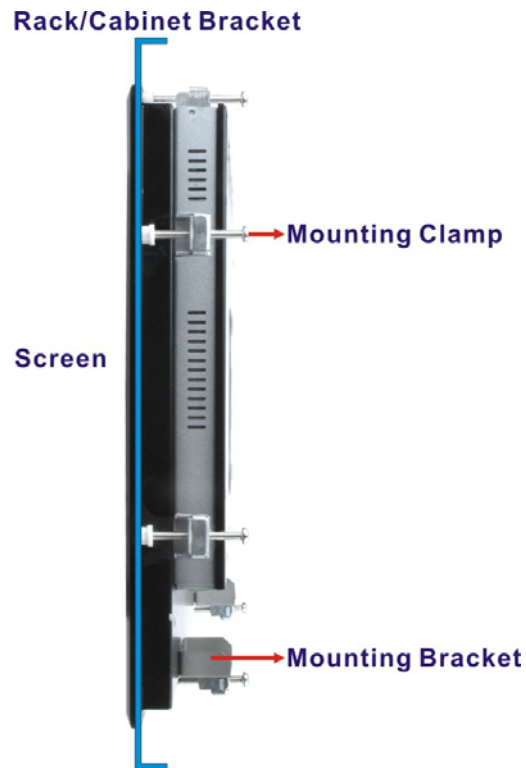

Figure 3-34: Secure the Rack/Cabinet Bracket
Step 3: Insert the mounting clamps into the mounting brackets and pre-formed holes along the edges of the PPC-F12B/15B/17B-BTi, behind the aluminum frame (**Figure 3-34**). The required number of mounting clamps may vary by models.
Step 4: Tighten the screws that pass through the mounting clamps until the plastic caps at the front of all the screws are firmly secured to the bracket (**Figure 3-34**).